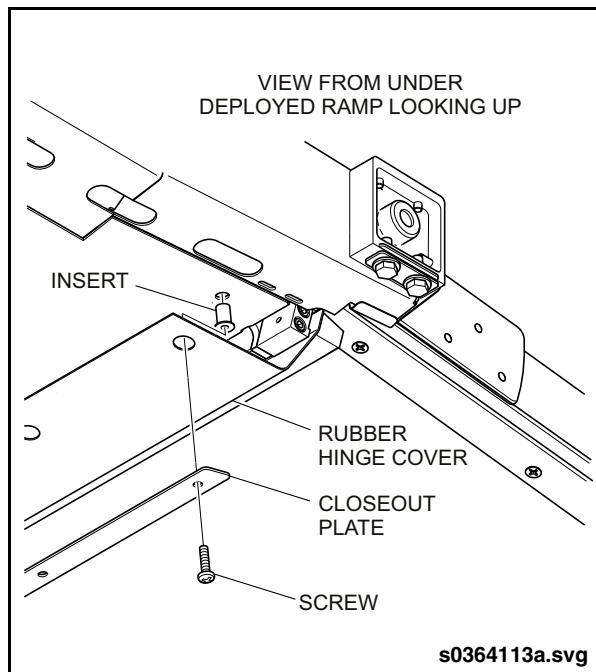

Fig. 20-5: Rubber Hinge Cover
2. Remove the seven 10-24 screws and closeout plate that attach the rubber cover to the bottom of the ramp box. See “Fig. 20-5: Rubber Hinge Cover” on page 14.